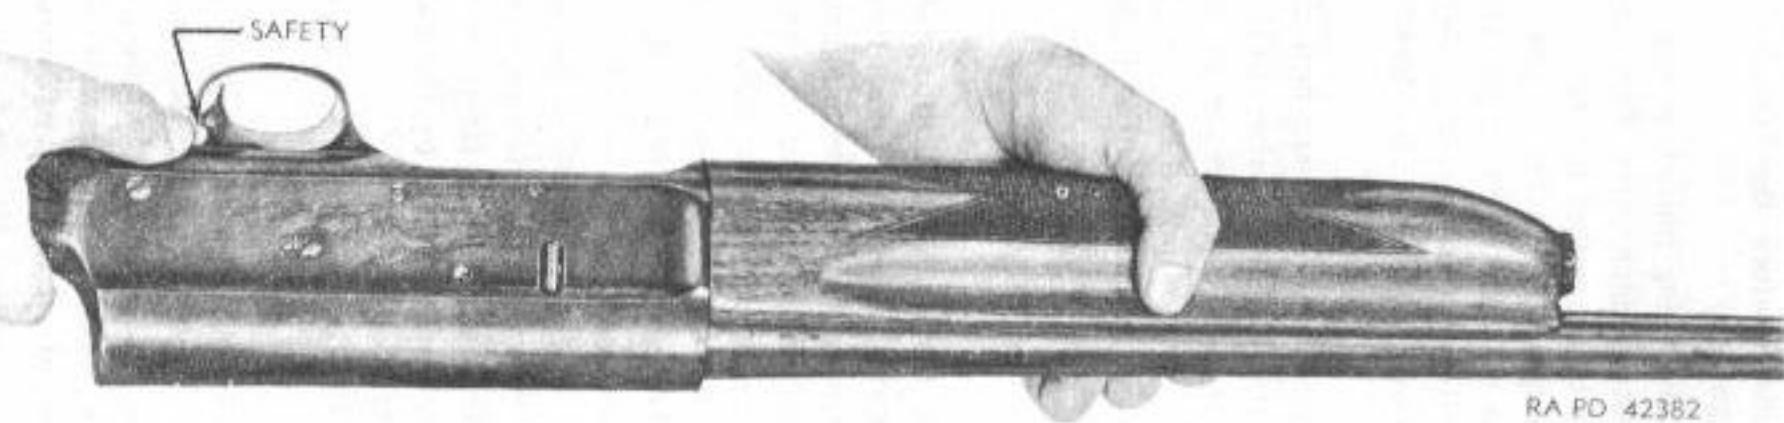

Figure 104—Operating Safety—Remington Shotgun M11—Sportsman
e. The trigger safety is positioned in the rear of the guard bow and operates laterally in the trigger plate (fig. 104). When pushed fully to the left, the trigger is free to be pulled and the gun fired. When pushed fully to the right, the trigger is blocked and cannot be pulled nor the gun fired. With a shell in the barrel chamber, it is best to block the trigger by pushing the safety to the right, as explained above, unless the gun is to be fired immediately.